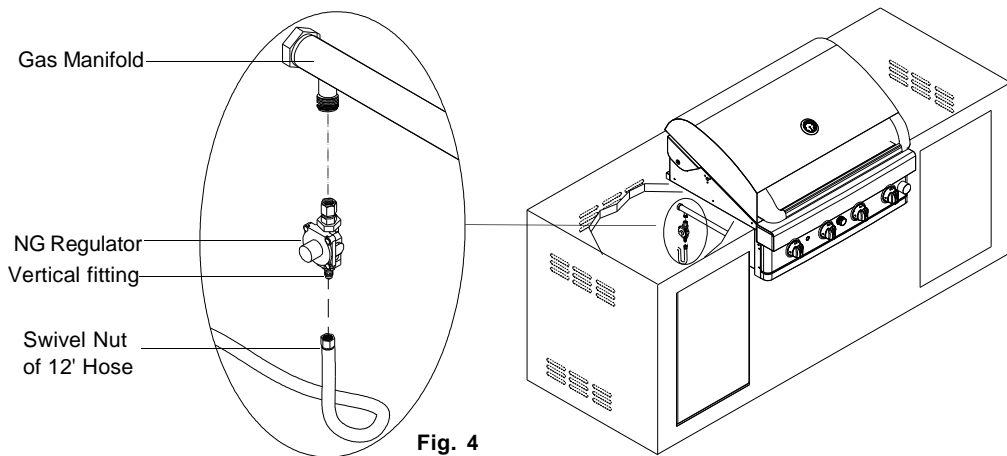

Fig. 4
- Connect the NG regulator to the inlet of gas manifold. (See Fig. 4)